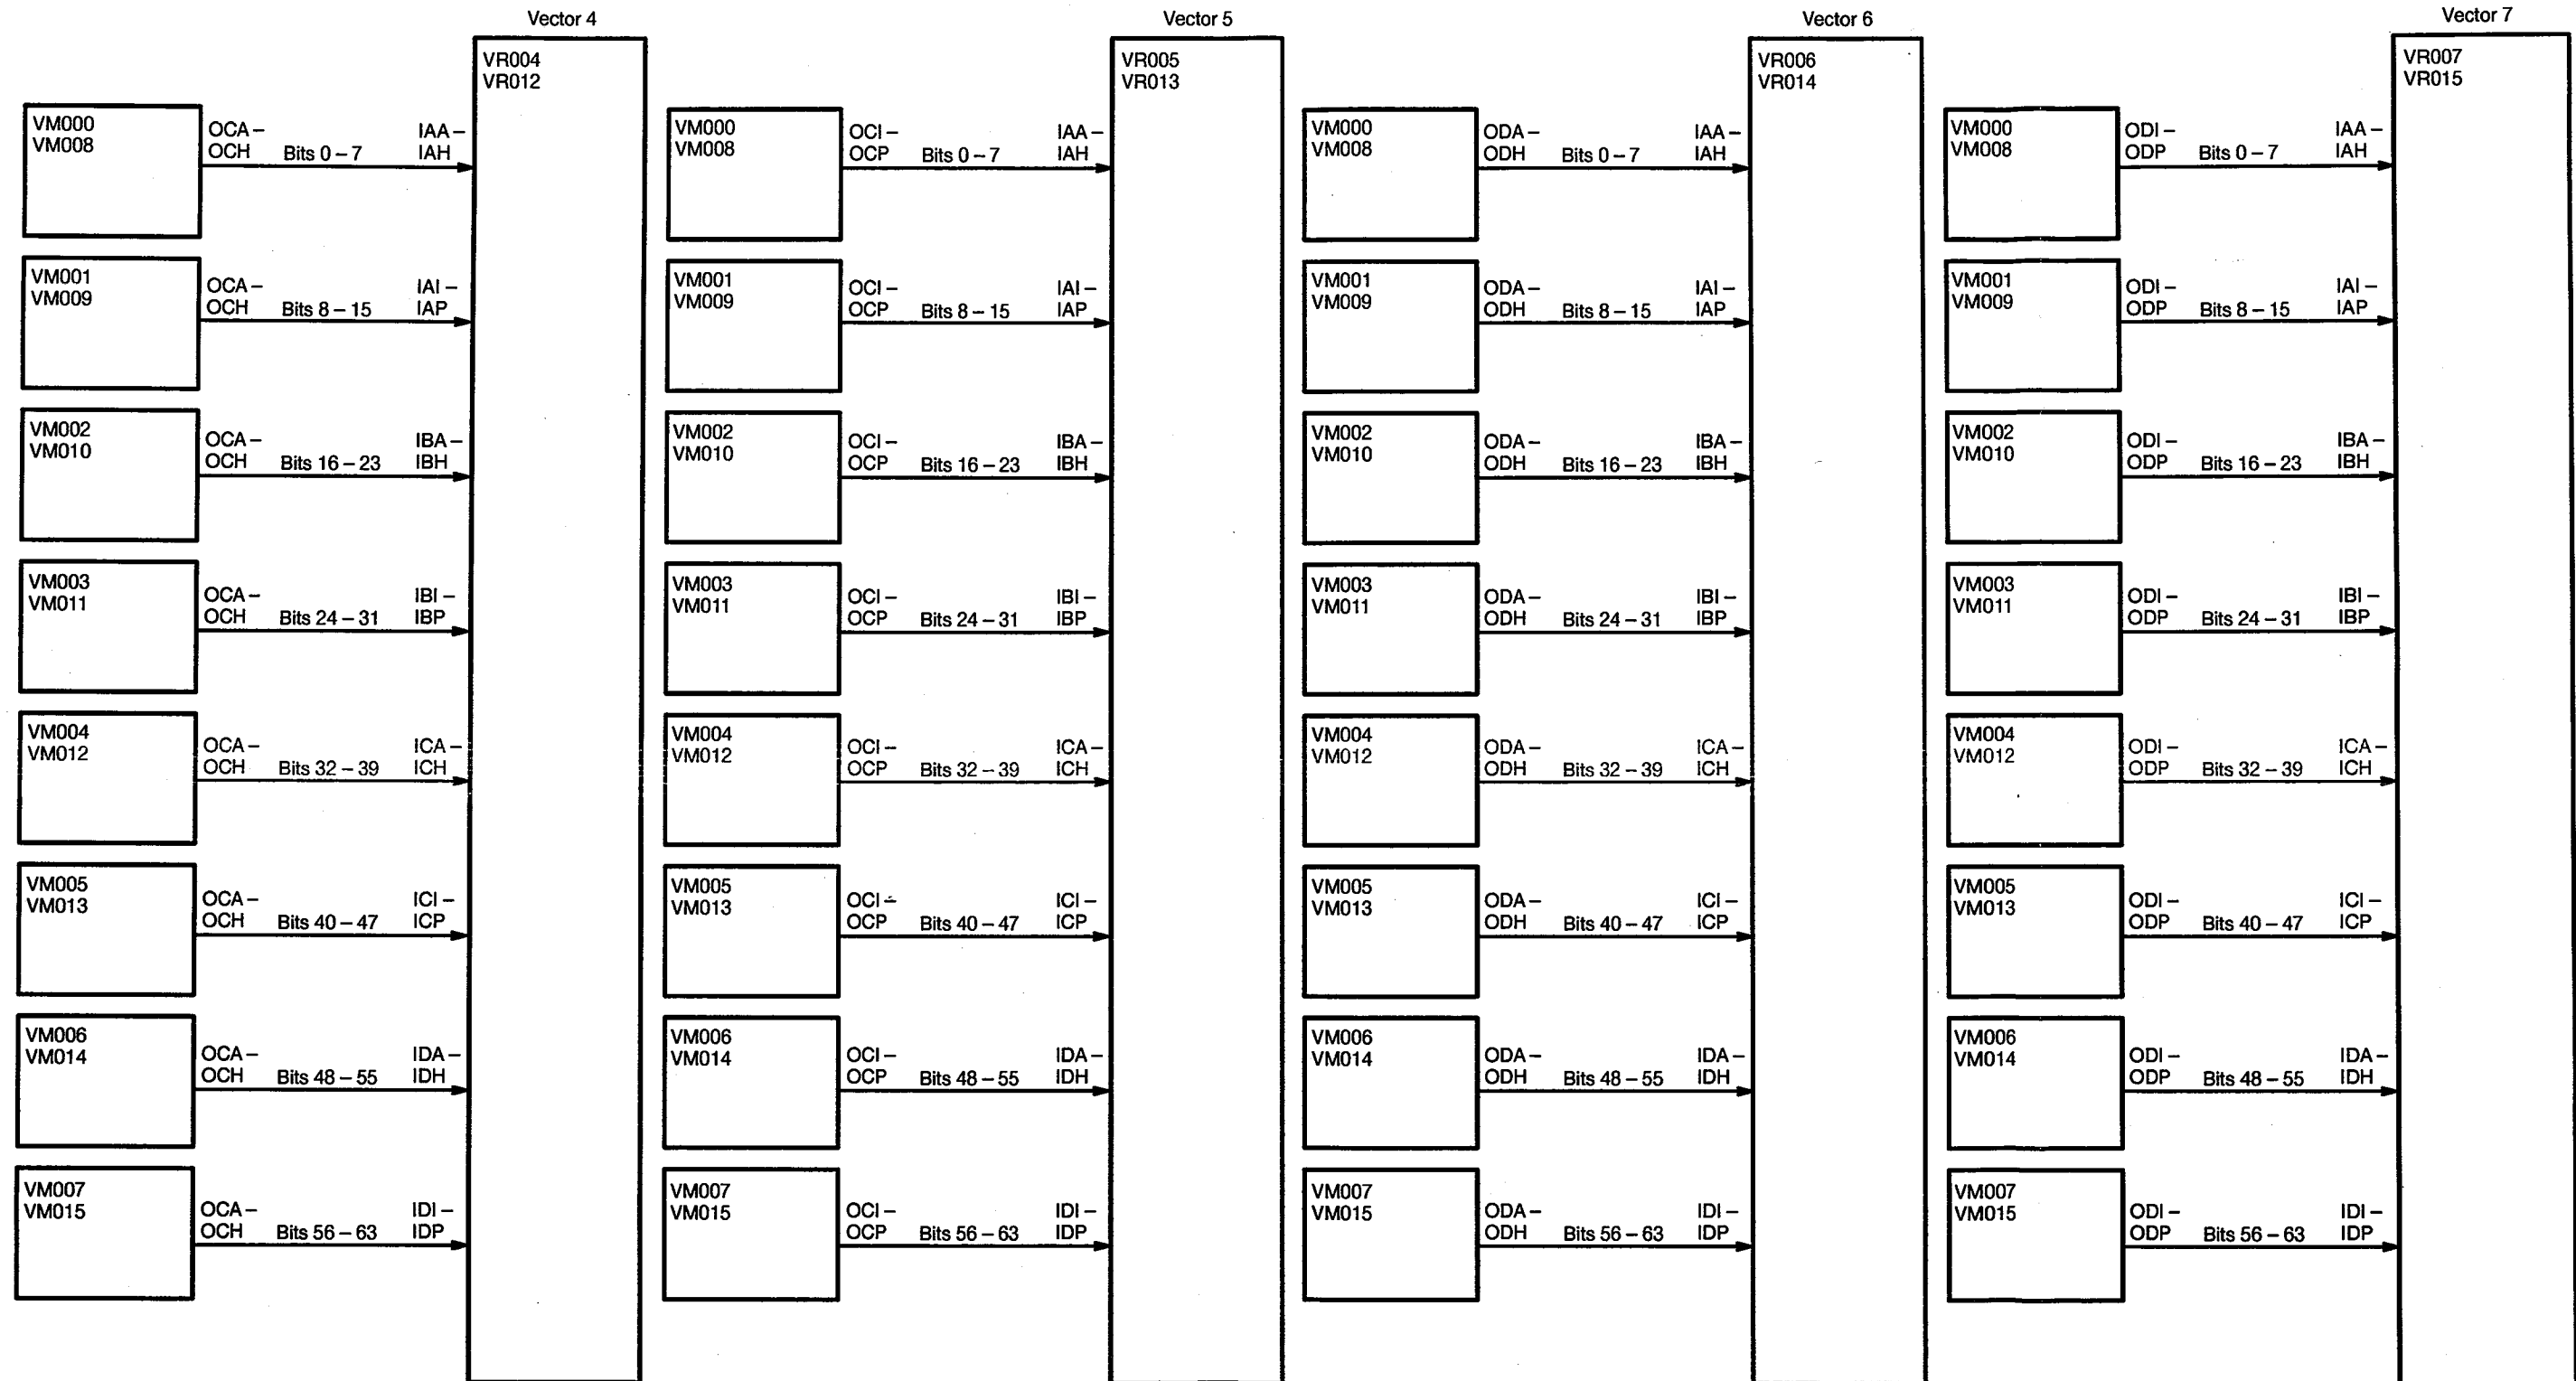

Figure 42. Vectors 4 through 7 Pipe 0/1 Write Data Path
- Figure 42 – vectors 4 through 7 pipe 0/1 write data path